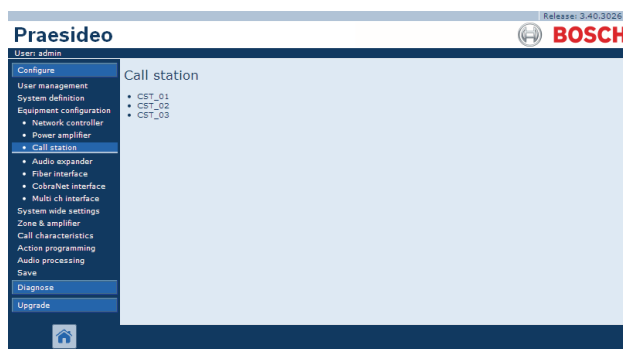

figure 44.27: Configure call station, step 1
- 1 Go to *Configure > Equipment configuration > Call station*. A screen similar to the one in figure 44.27 appears in the main frame of the web interface.